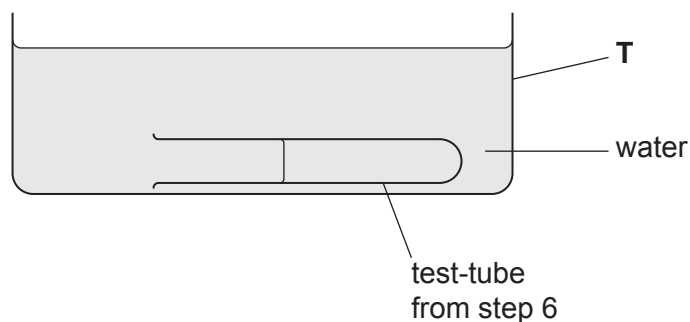

Fig. 1.3
9. Put the test-tube you prepared in step 6 into the container of water labelled **T**. Make sure that the test-tube is fully immersed and that there is no air in it, as shown in Fig. 1.3.